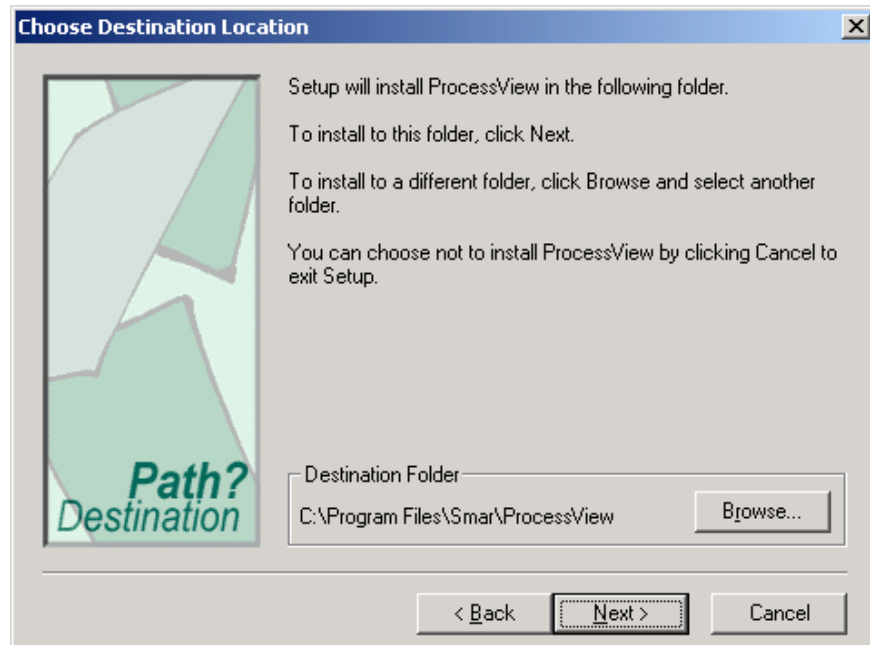

Figure 2.5. Choosing the Destination Location
9. The **Choose Destination Location** dialog box appears, as shown in **Figure 2.5**. Select the destination location for the software installation. The default directory for the setup is *Program Files\Smar\ProcessView*. If you wish to keep this default location, click the **Next** button to continue. If you prefer to select a different directory location for the installation, click the **Browse** button to select a different drive or directory. Click **Next** to continue.